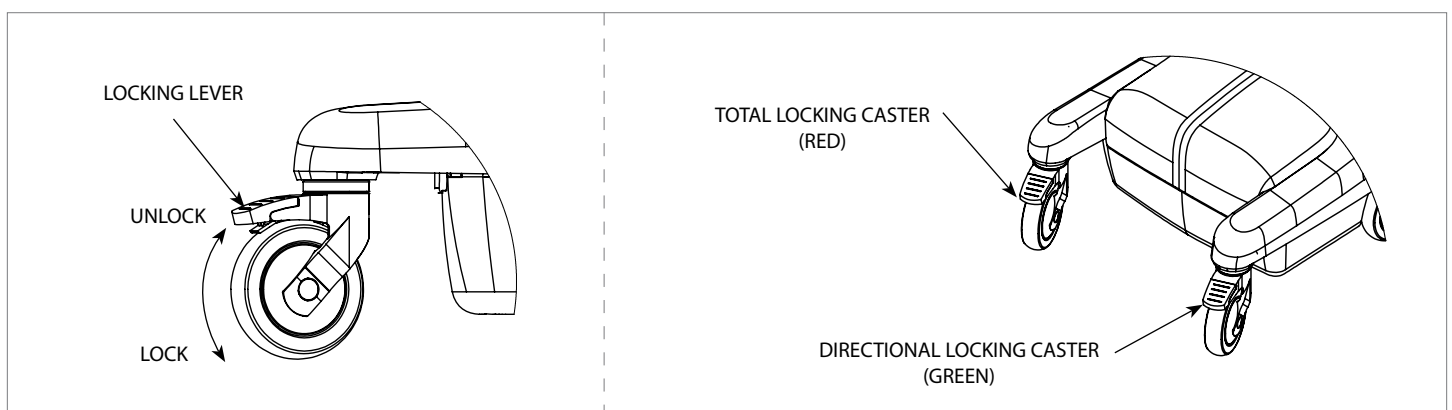

Figure 1
1. Lock the **CASTERS** by stepping on the **LOCKING LEVER** (on each caster) such that it clicks in the down position (**Figure 1**) and move to instruction step 2-6.